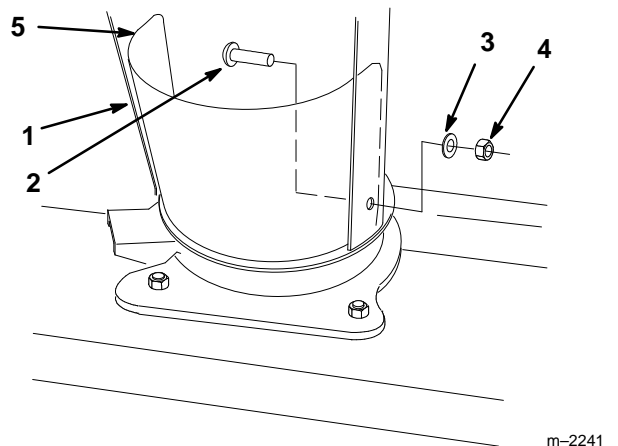

Figure 4
2. Install the discharge chute assembly and deflector shield onto the housing with (3) 5/16 x 3/4" (19 mm) carriage bolts (heads to the inside), (3) 5/16" (8 mm) washers and (3) 5/16" locknuts (Fig. 4).